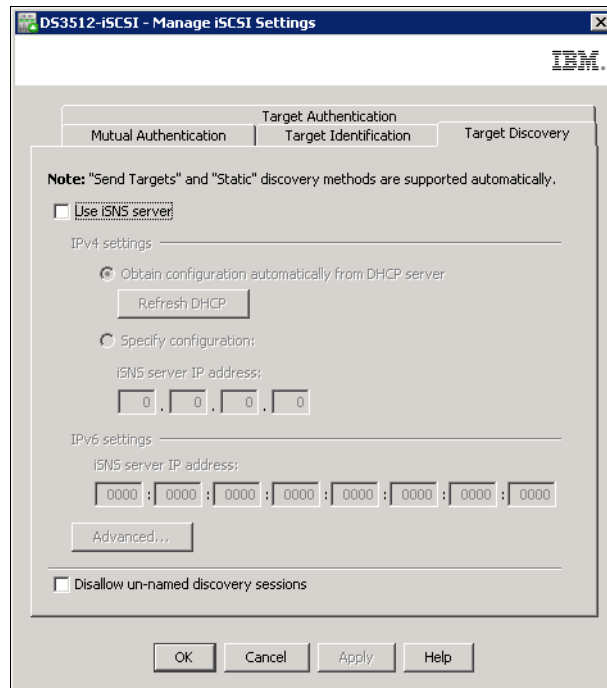

Figure 13-7 Target Discovery - Enable iSNS server
We discussed techniques for target discovery in 1.3.2, “iSCSI discovery” on page 11. The Target Discovery tab in the Manage iSCSI Setting window (Figure 13-7 on page 317) can be used to specify if an Internet Storage Name Service (iSNS) will be used to register this iSCSI Target for easier location by iSCSI Initiators.
2. Select **Use iSNS server** as shown in Figure 13-7 on page 317.